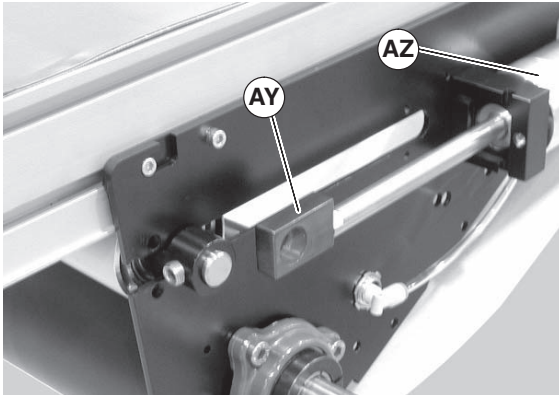

**Figure 24**
6. Temporarily support the tensioning roller guard (Figure 23, item AV). Remove screws (Figure 23, item AU) on both sides of center drive and remove tensioning roller guard (Figure 23, item AV) and (Figure 24, item AV).
7. Loosen tensioning roller set screws (Figure 24, item AW).
8. Push shaft (Figure 24, item AX) through block, and slide block (Figure 25, item AY) towards air cylinder (AZ).